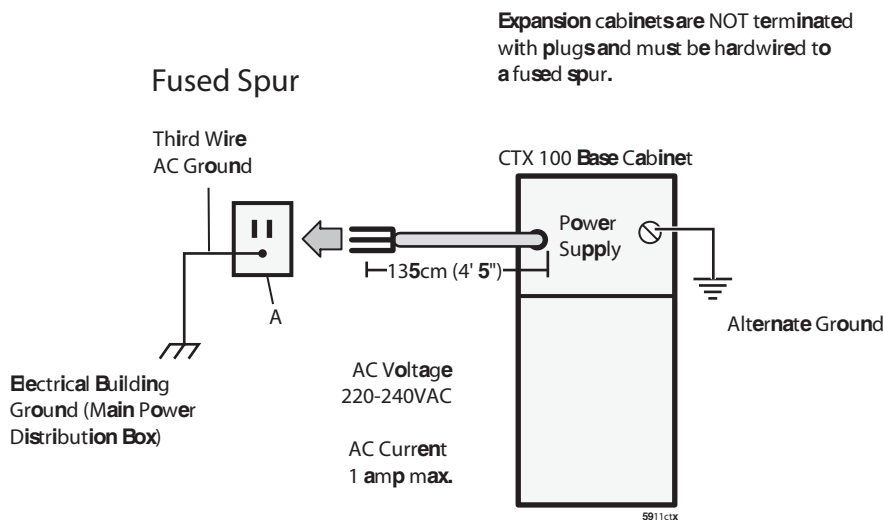

Figure 2-2 CTX100 Grounding Diagram
The CTX100 requires an earth connection back to the main distribution point for proper operation and safety. Failure to provide this earth may be a safety hazard or lead to confusing fault, or operational symptoms and, in extreme cases, system failure. The AC power cord already contains a conductor for the “protective earth” provided by the commercial power outlet. This alone is not sufficient. It is also necessary to connect a separate insulated conductor between the Frame Ground (FG) terminal on the base KSU and the main distribution point. (See Figure 2-2). This must be installed in accordance with the general rules for earthing contained in BS6701 parts 1 & 2.